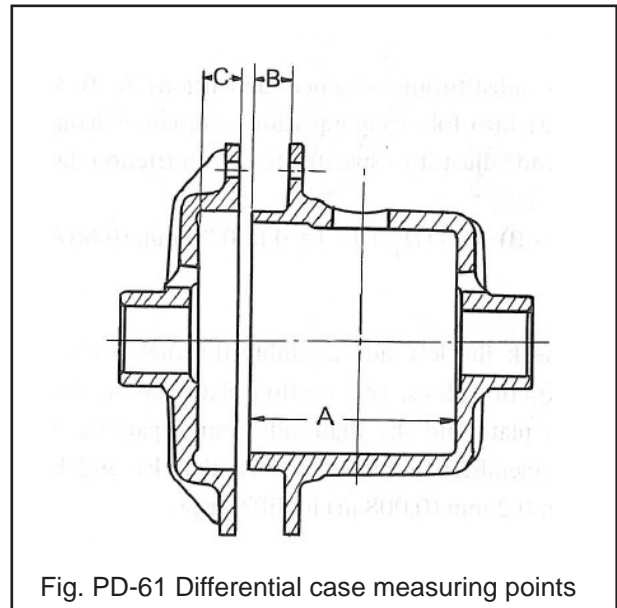

Fig. PD-61 Differential case measuring points
2. Measure the depth of left half differential case (cover half of case). C is the dimension between flange face and housing end to come in contact with friction plate. See Fig.PD-61